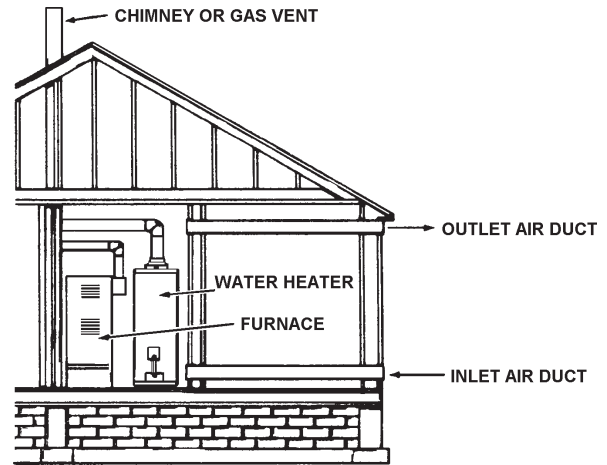

FIGURE 14.
3. When communicating with the outdoors through horizontal ducts, each opening shall have a minimum free area of 1 square inch per 2,000 Btu per hour (11 cm²/kW) of total input rating of all equipment in the enclosure, see Figure 14.
4. When ducts are used, they shall be of the same cross-sectional area as the free area of the openings to which they connect. The minimum short side dimension of rectangular air ducts shall not be less than 3" (76.2 mm), see Figure 14.